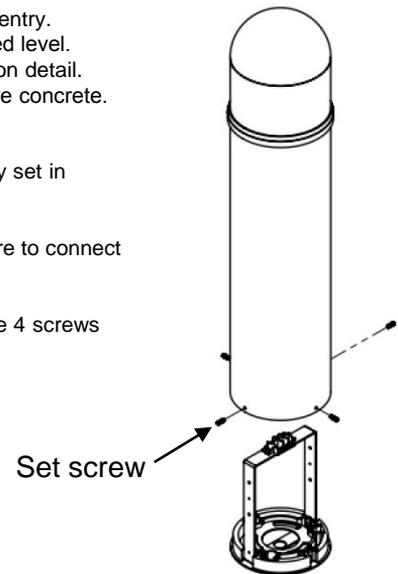

Figure 1
2. Remove the 4 set screws from the bollard to remove the base assembly. (see Figure 1)